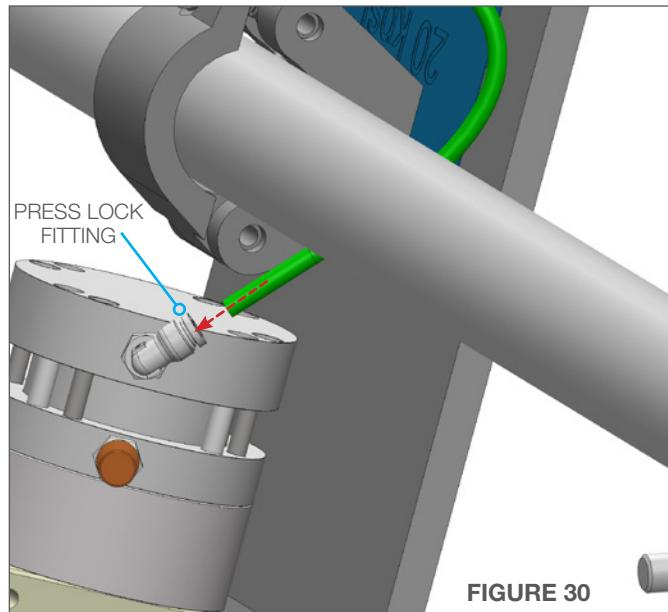

FIGURE 30
2. Connect the Dump Control Line to the Press Lock Fitting on the Dump. (**Figure 30**)